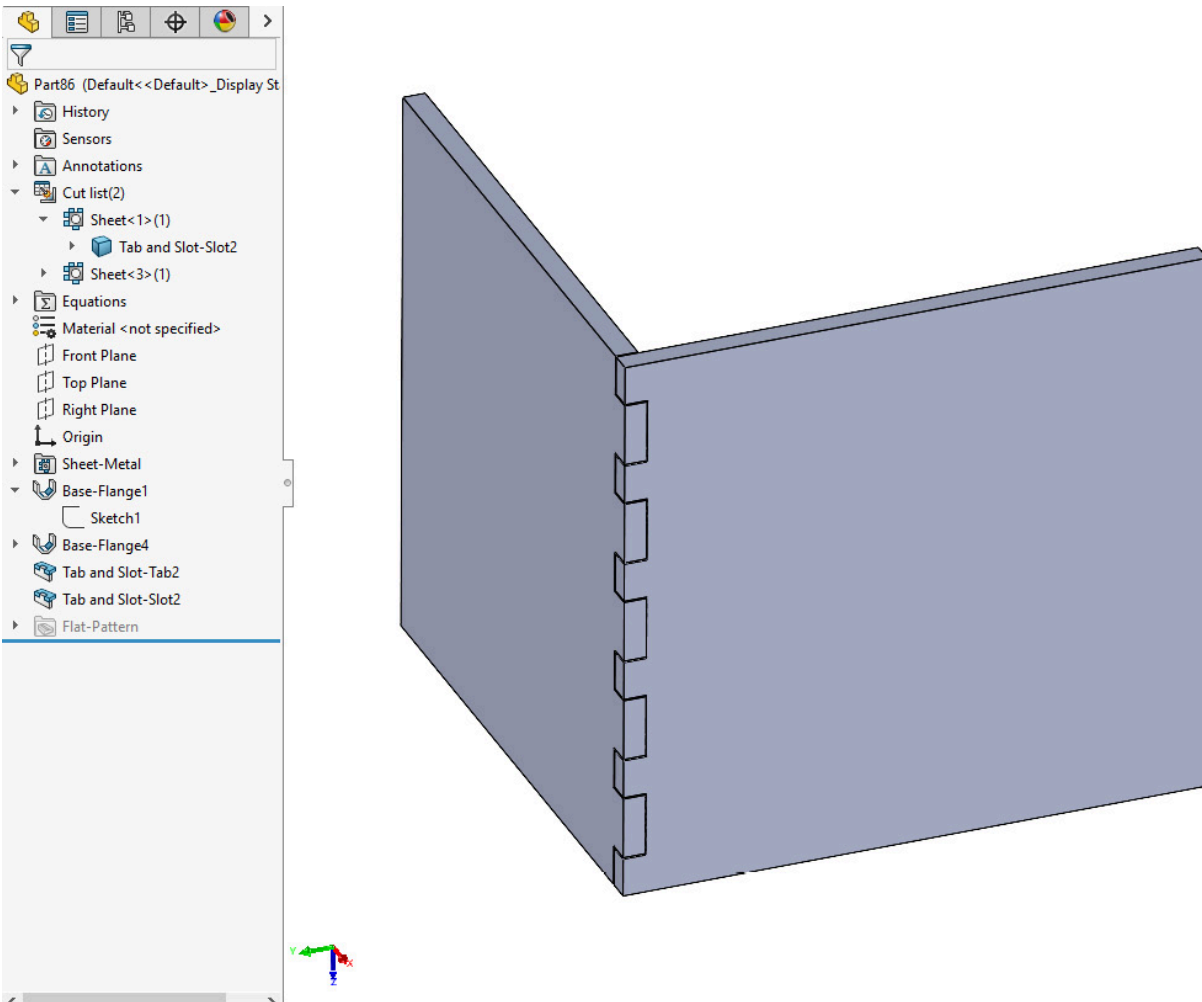

Figure 8.7: The created Tab and Slot features
7. Press the green **OK** check mark to create a **Tab and Slot** feature using the default sizes and options (see *Figure 8.7*). Note how one sheet has had the slots cut away and the other sheet has had the corresponding tabs added.